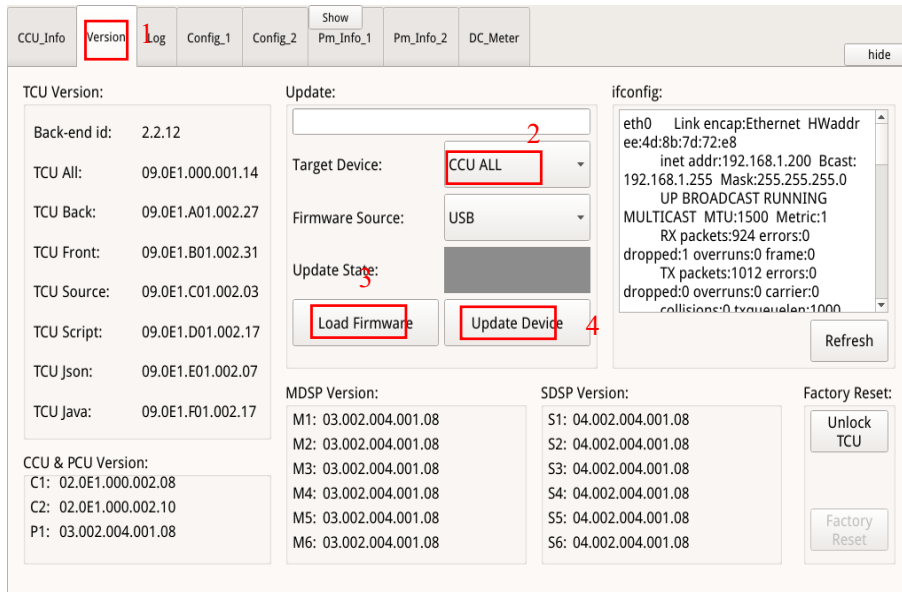

Fig.4-3 Interface of Version
- 1) After accessing the factory mode, navigate to the Version interface, as shown in Fig. 4-3.